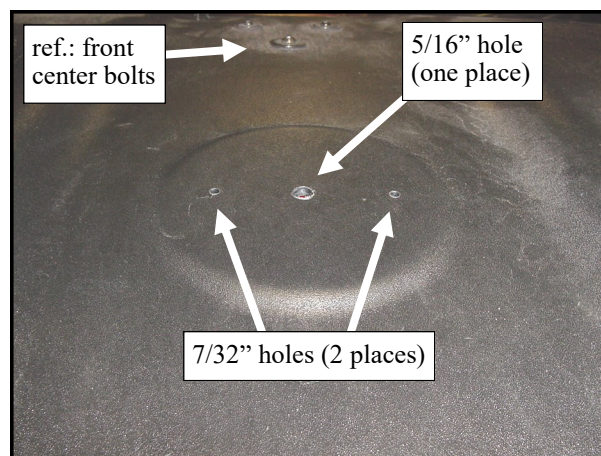

Fig. 2.2 (view from rear of vehicle)
2.2 Per figures 2.2 and 2.2.1, locate the circular embossed area on the top of the plastic roof. Mark three hole locations as follows: mark the center of the emboss, then mark 2" to the driver's side and 2" to the passenger's side to correspond with the two bolts and the wires on the bottom of the strobe light. Note: double check the decal on the top of the strobe light for the "Front" orientation direction. Drill a 5/16" hole in the center location and two 7/32" holes to the left and right of the large hole (4" center to center to match the bolt pattern on the strobe light). Install the supplied rubber grommet in the center hole.